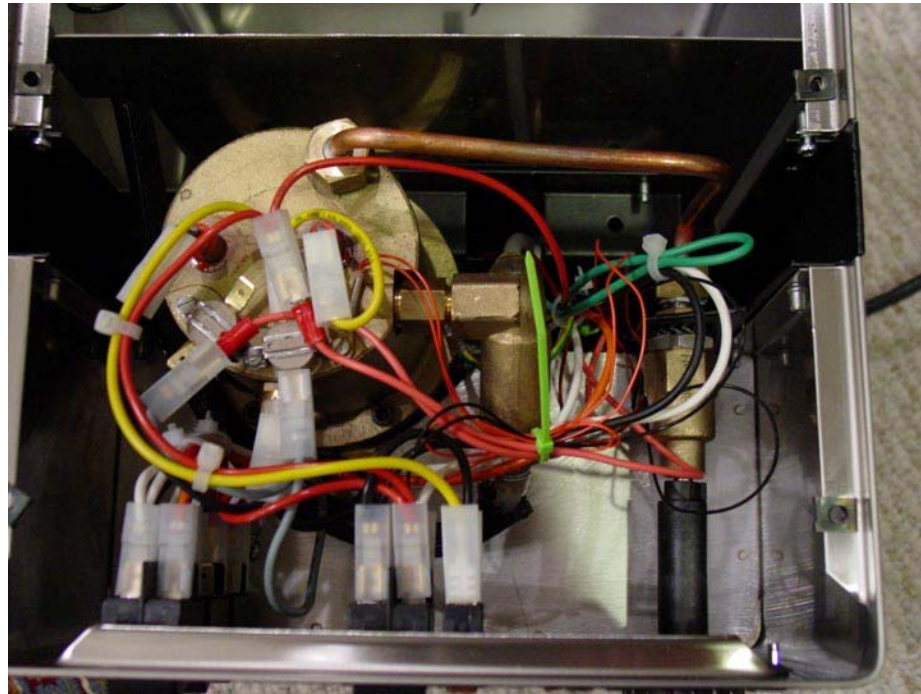

Figure 22. Tie up the cables with green colored cable tie.
- 8) Tie up the wire in the boiler compartment (Fig.22). Make sure there are no cables touching the boiler surface. This is especially important for the cables installed by the factory. The cables installed by the factory have PVC insulation that will melt when touching the hot boiler surface. It can result in electric shock.